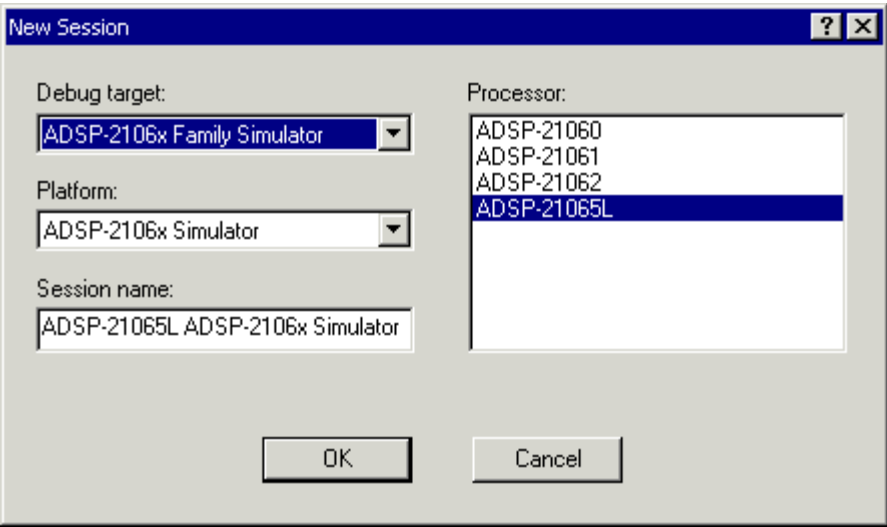

Figure 2-6. New Session Dialog Box
If you are running VisualDSP++ for the first time, the **New Session** dialog box (Figure 2-6 on page 2-12) opens to enable you to set up a session.
1. In the **Session List** dialog box, click **New Session** to open the **New Session** dialog box, shown in Figure 2-6.